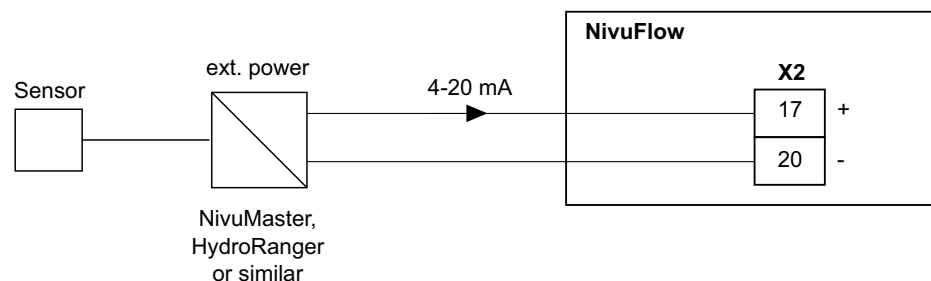

Fig. 23-16 Connection external level measurement
- ➡ If the mA signal of the level measurement is provided by an external transmitter (e.g. NivuMaster), connect the transmitter according to Fig. 23-16.